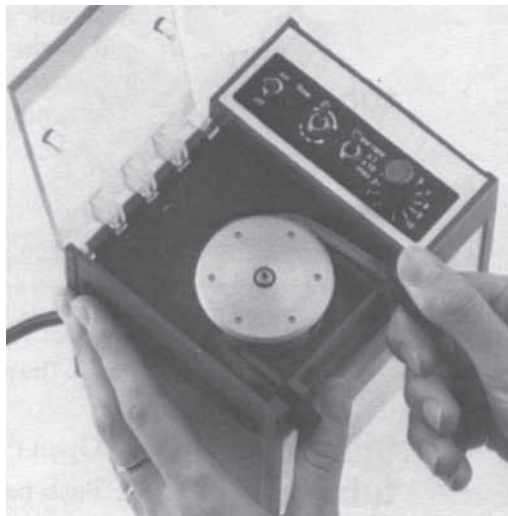

Fig 6. Inserting the pump tubing.
3. Insert the tubing (Fig. 6). Make sure the nuts of the connectors fit correctly into their housings.